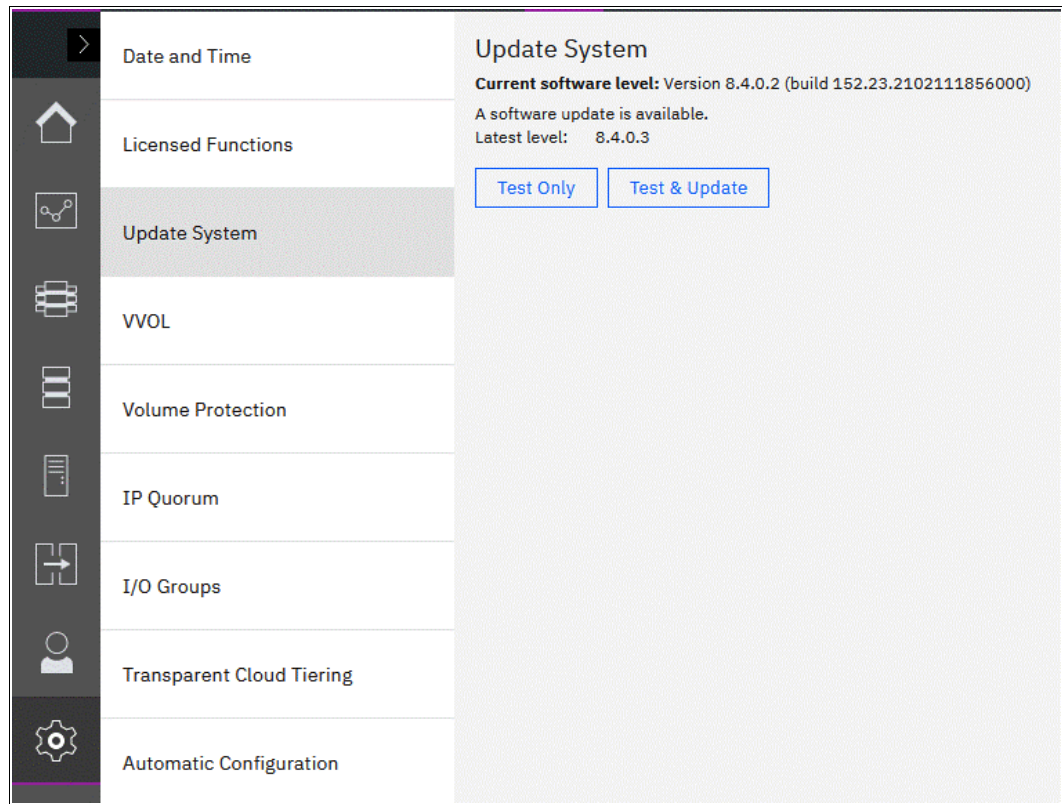

Figure 13-16 Update System window
2. In the **System** menu, click **Update System**. The Update System window opens (see Figure 13-16).